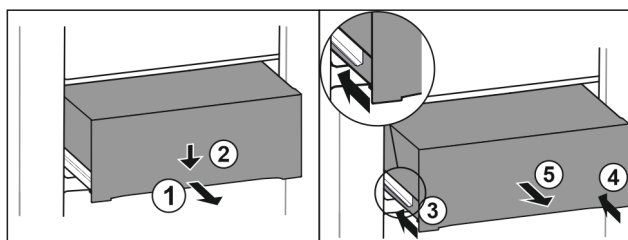

Fig. 121
- Pull out drawer half-way. Fig. 121 (1)
- Push the drawer down at the front. Fig. 121 (2)
- Push the left rail in by about 2 cm. Fig. 121 (3)
- Push the right rail in by about 2 cm. Fig. 121 (4)
- Remove drawer to the front. Fig. 121 (5)